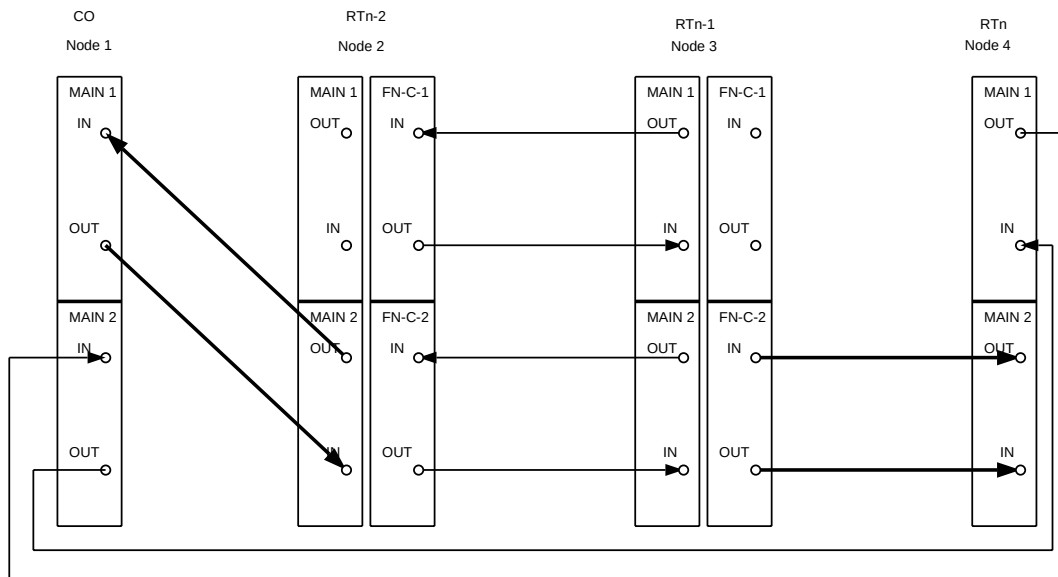

Figure 19. DDM-2000 OC-3 Drop or Add/Drop Network to Ring Upgrade
Connect optical fiber from Node 1 (CO) **MAIN 2(P) OUT** to last Node 4 (RTn) **MAIN 1 IN**. Connect optical fiber from Node 1 (CO) **MAIN 2(P) IN** to last Node 4 (RTn) **MAIN 1 OUT**. (See Figure 19.)